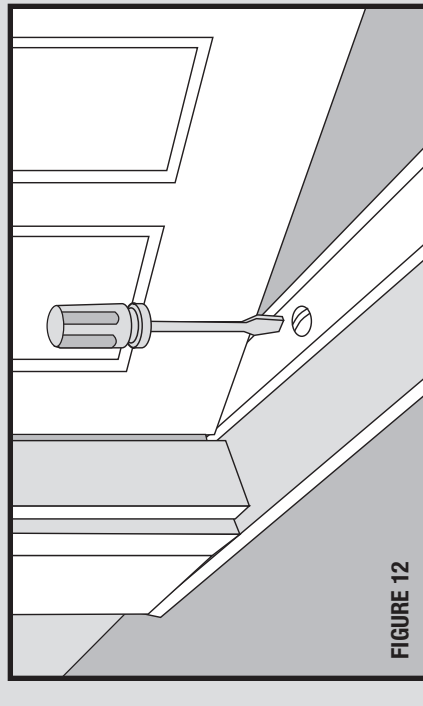

FIGURE 12
- Adjustable composite threshold allows a simple height adjustment for perfect door alignment to seal out bottom drafts. Adjust threshold so that door sweep contact is even across threshold. (figure 12)